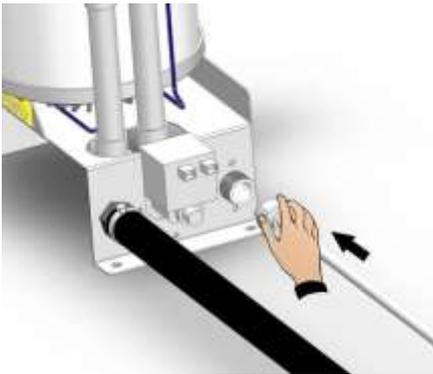

Fig. 21
4. Connect the water supply line to the $\frac{3}{4}$ GAS connection of the solenoid valve (fig. 21 and 22).